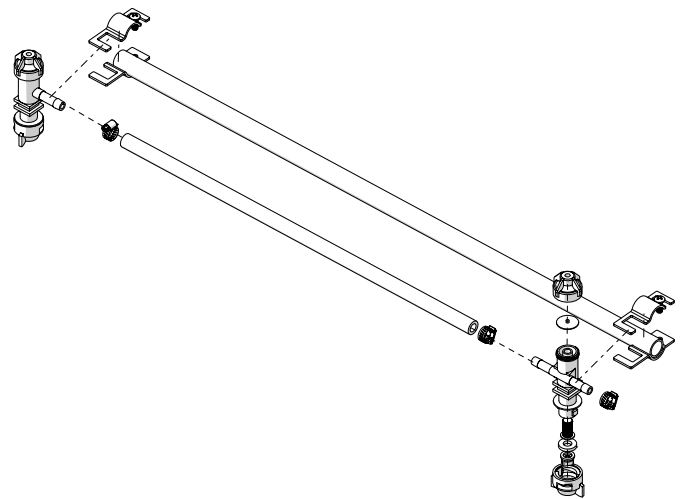

Figure 5: Nozzle body mounting
3. Connect the vinyl hose to the nozzle body(s) with an included hose clamp. The spray nozzles, nozzle body caps, and tip strainers are all installed into the nozzle body. See Figure 5 on page 7 for a breakdown of the complete nozzle body.
4. The recommended technique for mounting the nozzle body(s) is on a piece of round or square tubing with a boom clamp. Your applicator kit includes two 1/2" round boom clamps. See the Accessories section on page 17 for ordering different size round or square boom clamps. See Figure 5 on page 7 for a diagram of how the spray nozzle bodies are mounted on tubing.
5. Depending on the size of the application area on the piece of equipment, you will need to use one or two spray nozzles. Begin by installing the nozzle body elbow and test to see if the spray pattern covers the entire application area. If two spray nozzle bodies are needed for complete coverage, install the nozzle body tee first and the nozzle body elbow secondly. See Figure 5 on page 7.